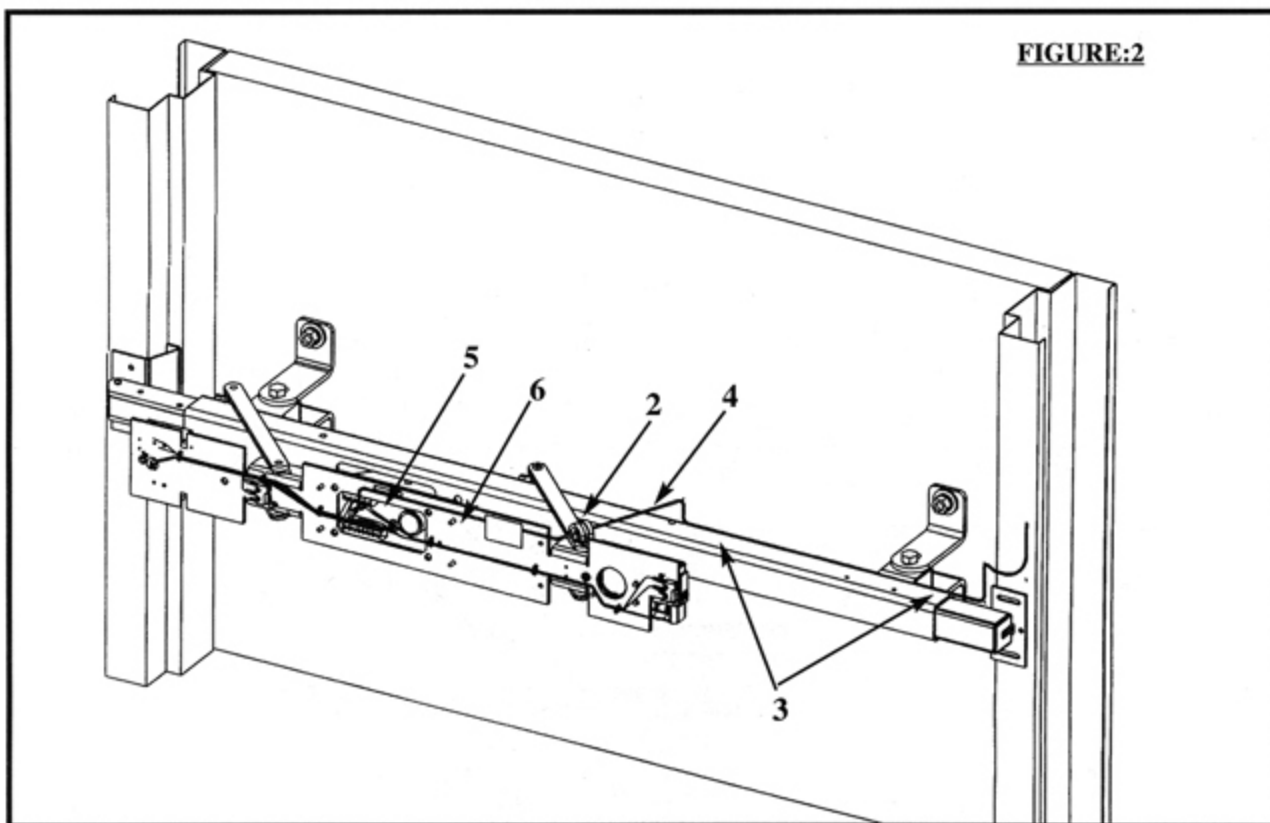
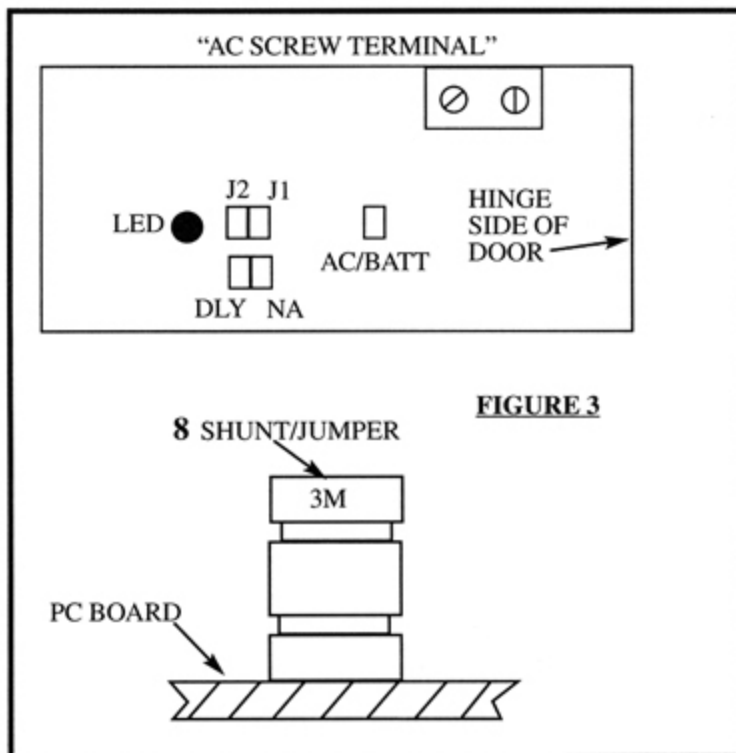
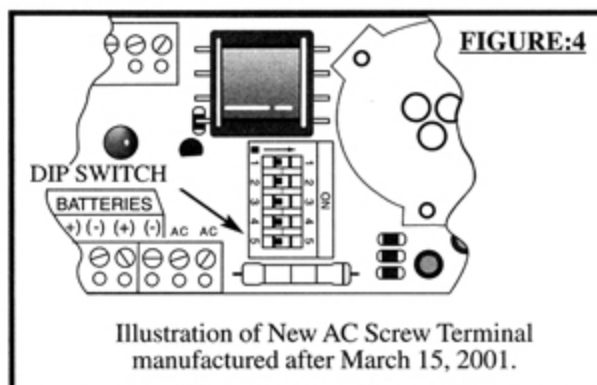
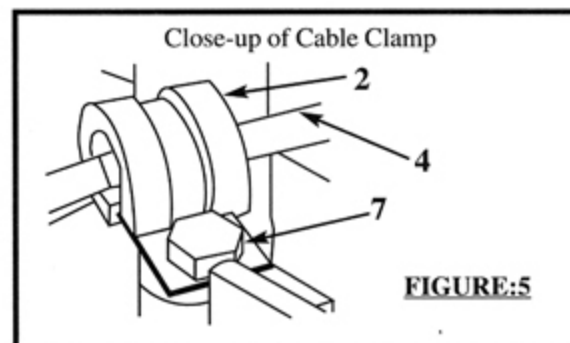

FIGURE:2
FIGURE 3
FIGURE:4
FIGURE:5
2. Remove the cylinder retainer, cover, and cylinder (See Figure 1) and slide the push bar off the unit until the screw terminals on the alarm board are accessible. (See Figures 4 & 5).
3. Insert the black and red wiring (item 5) into the flexible steel sleeve cable (item 4). Leave 12 inches of wire exposed at either end of the sleeve cable.
4. Remove the existing bolt at the pad base end of the link are closest to the key cylinder hole. Slide the 2.75 inch bolt (item 7) provided through the opening of the cable clamp (item 2), and place one end of the flexible steel sleeve cable in the cable clamp (See Figure 5). Replace the 2.75 inch bolt and assembly into the link arm. Replace the washer and nut and secure.
5. Connect the wiring (item 5) to the screw terminals on the alarm board. The locations are marked either AC/BATT (see figure 3) or AC (models manufactured after March 15, 2001, (See Figure 4). Attach the red wire to either screw terminal and the black wire to the other. Place the wiring under the wire sticker (item 6). (See Figure 2).
6. On models manufactured before March 15, 2001, place the blue jumper (shunt) (item 8) on the two pins marked "AC/BATT" on the PC board. Recommended installation is with the 3M logo on top. (See Figure 3).
NOTE: On models manufactured after March 15, 2001, flip the dipswitch #5 to the ON position. (See Figure 5).